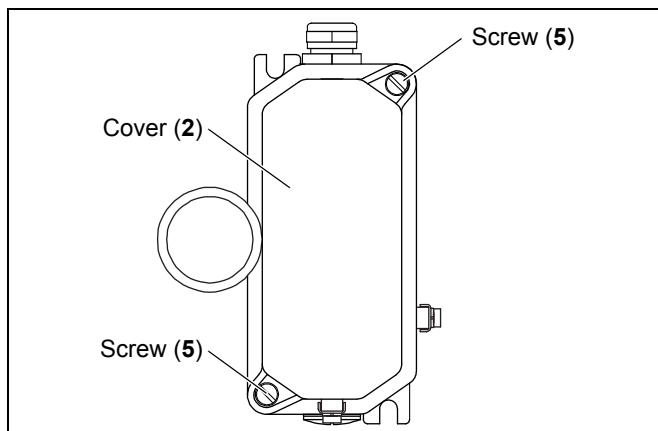

Fig. 5-5: Connecting the belt misalignment switch
2. Open the cover **(2)** of the belt misalignment switch by loosening the two screws **(5)** (see *fig. 5-5*).